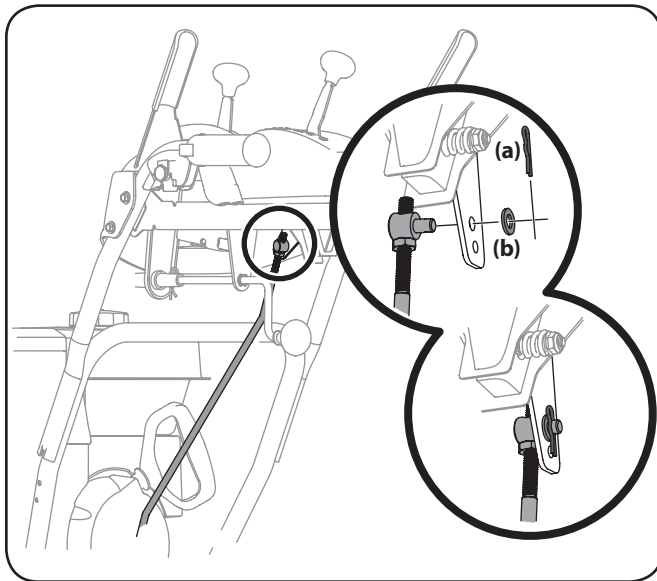

Figure 3-9
7. Ensure speed selector is in fastest forward speed. Remove the cotter pin (a) and washer (b) from the ferrule on the end of the shift rod. See Figure 3-9 inset.